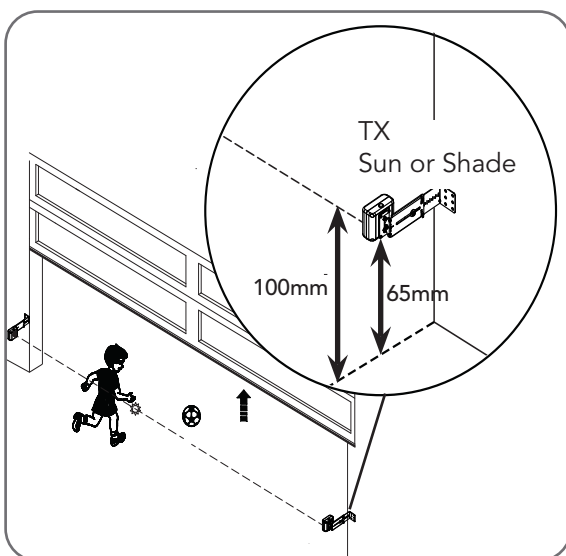

Fig 6.4
The transmitter and receiver need to be placed in line of sight, with the beam 100mm above the ground level (as per AS/NZS 60335-2-95:2012 Amendment 2:2018). This can be achieved by ensuring the bottom of the receiver and transmitter are 65mm above ground level. They should also be placed as close as possible to the door opening with the receiver (RX) in shade and the transmitter (TX) in sun or shade (**Fig. 6.4**).